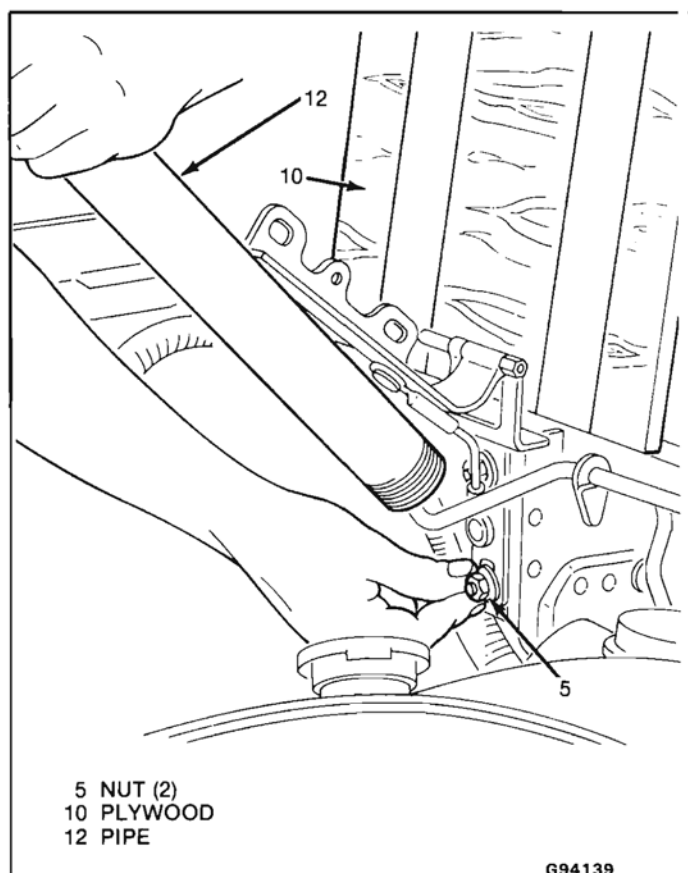

Fig. 5-Installing Rear Compartment Lid Hinge
- Place pipe over end of torque rod (Fig. 5)
- Remove top nut (Fig. 5)
- Hold tension on rod with pipe (Fig. 5) while removing wood block and lower nut.
6. Hinge (4) - allow torque rod to rotate forward and rest against plywood.
1. Hinge (4) - place pipe over rod and hold tension on rod (Fig. 5) while installing hinge.
2. Nuts (5)